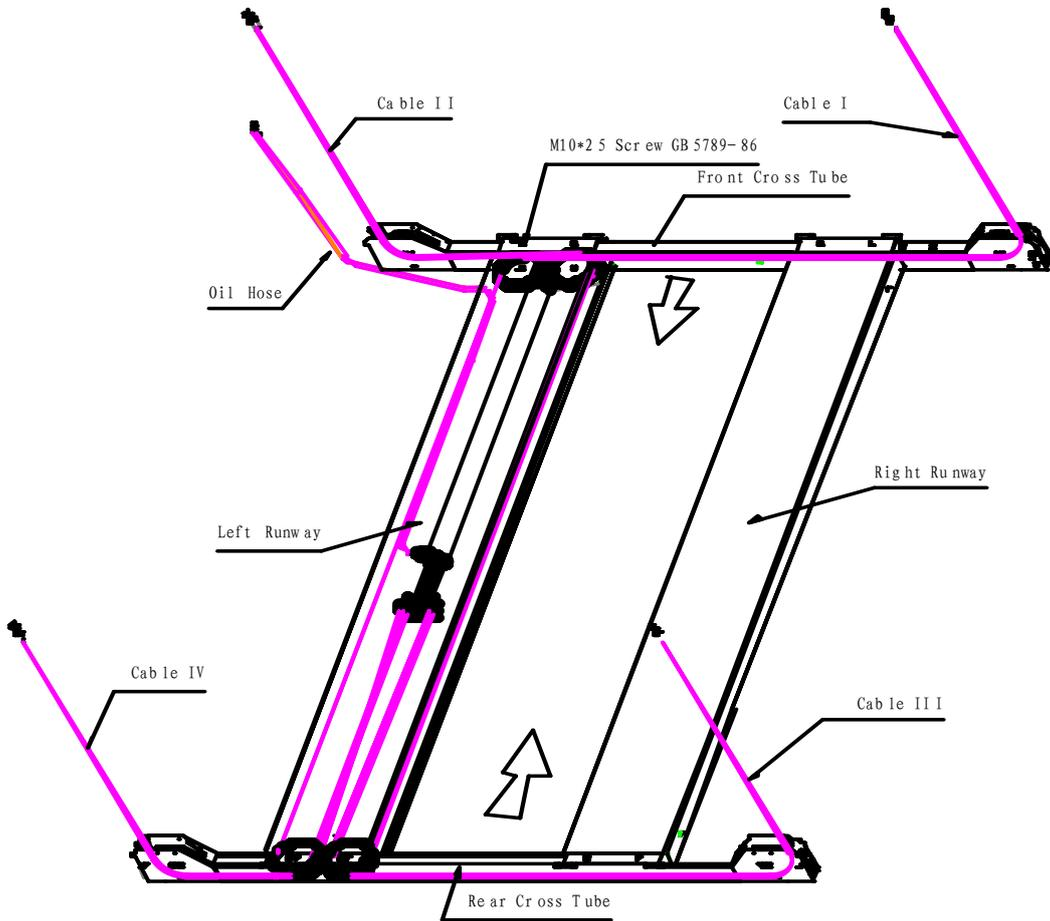
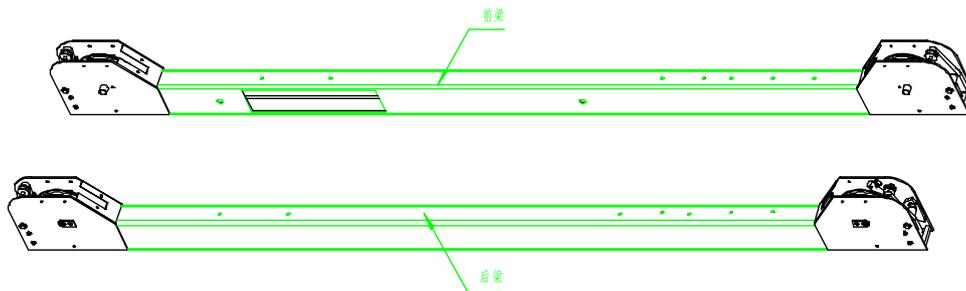

Fig.7
Fig.8
- Position front and rear cross tubes at respective ends of runway (see Fig.7 and Fig.8). The opening in the side of the tubes should be lined up with the cable sheaves in the runway ends. Feed cable ends through tube opening and do